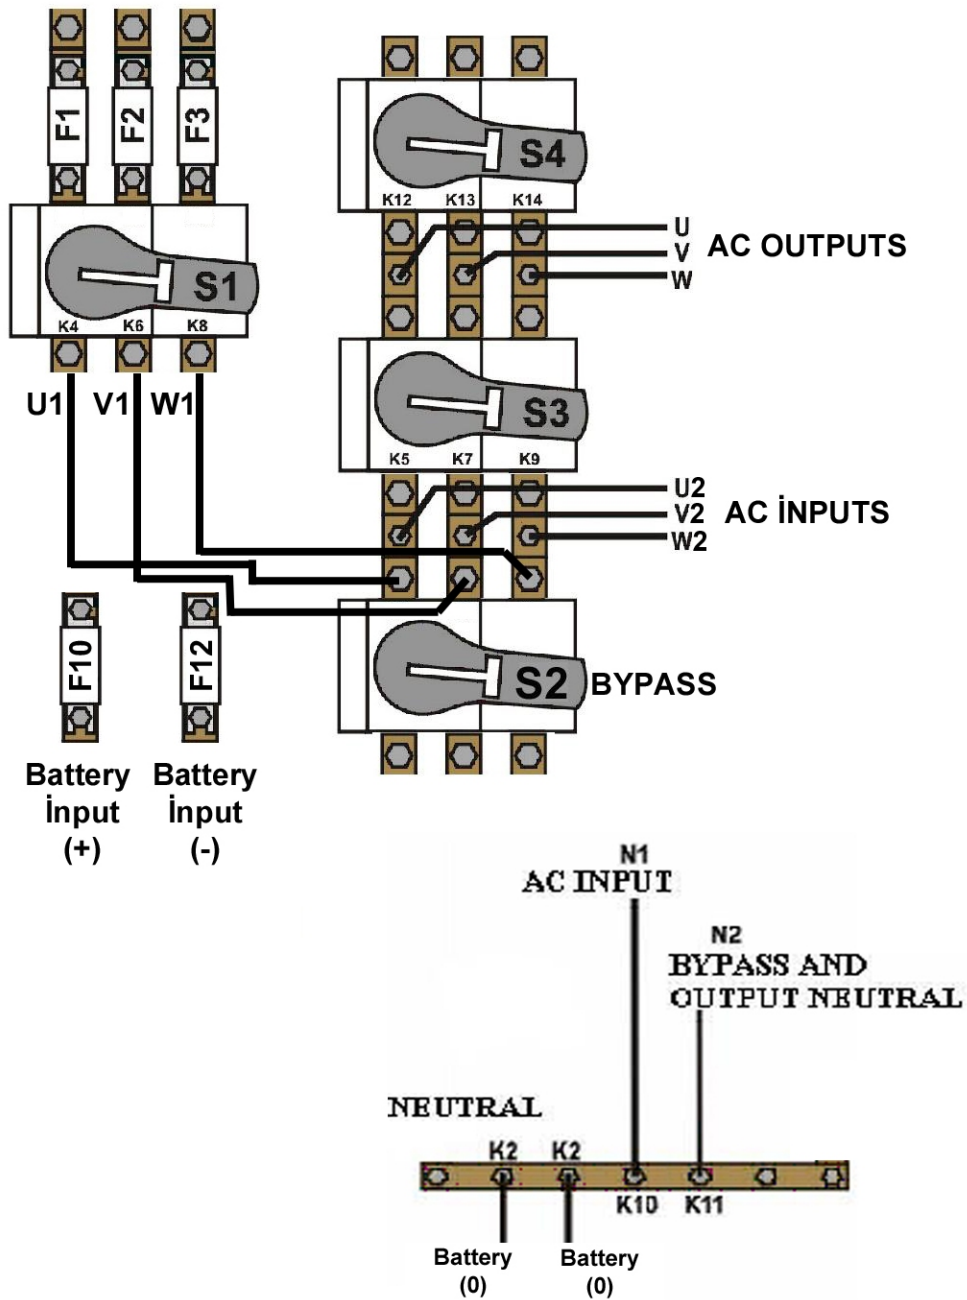

Figure 2.2 50-60-80 kVA POWER Cable Connection
Descriptions of the UPS input output cable connection terminals are shown in figure 2.2
2. Connect the 3 phase AC input coming from the mains distribution panel to the AC input terminals as shown on the label. (Figure 2.2)